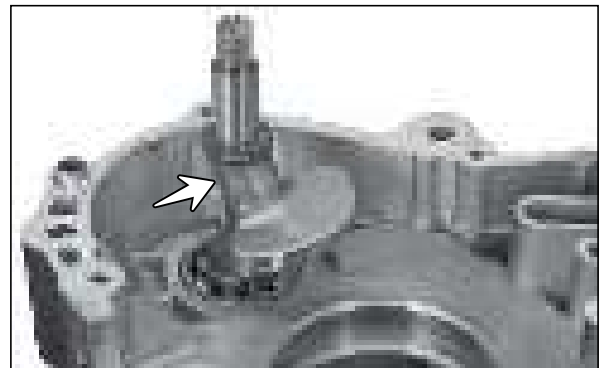

Fig. 3.159
- Take out the balancer shaft complete as an assembly. (Fig. 3.159)